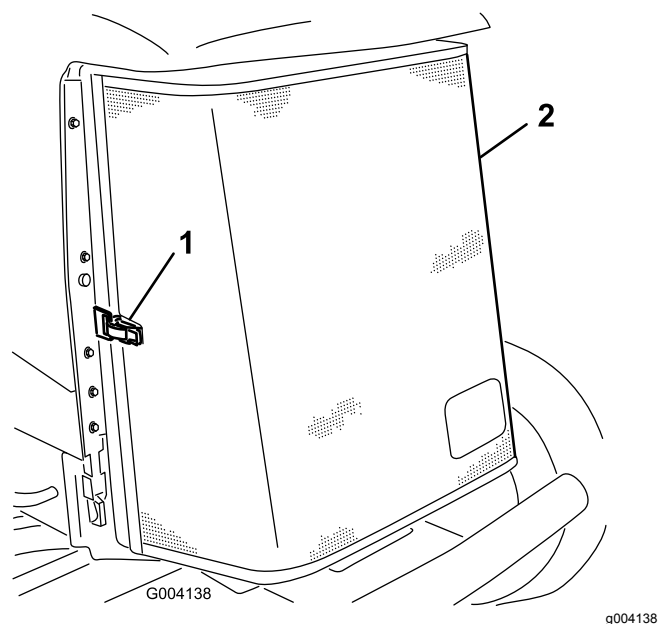

Figure 95
3. Unlatch the clamp and pivot open the rear screen (Figure 95).